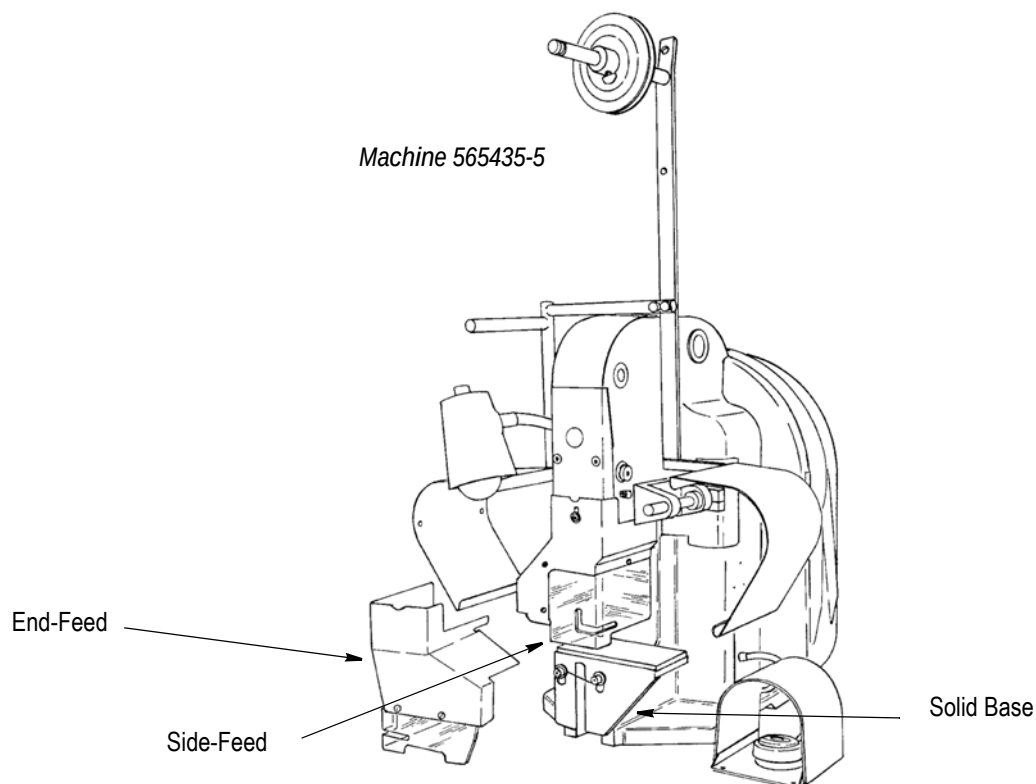

Figure 33
11.1. Machine 565435-5 and 565435-2 (Figure 33)
Components and parts added to the basic machine, prior to revision "AD," include a base mount and plate, ram, side-feed and end-feed guards, and left strip guide as listed in 408-8022. Beginning with revision "AD," the base mount and plate have been replaced with a solid base assembly (812286-1) as shown in Figure 33, and the machine frame has been modified. All other parts remain the same as listed in 408-8022.